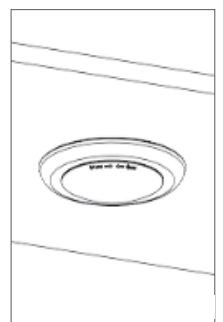

FIGURE 7
H) Installation complete. (Figure 7)